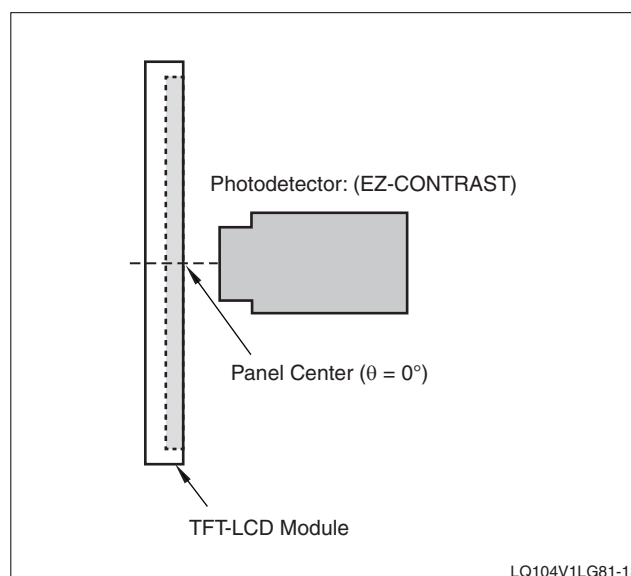

Figure 5. Viewing Angle Measurement Method
- Viewing Angle is described as clock positions: θ12 = 12 o'clock, θ11 = 6 o'clock, θ21 = 3 o'clock, θ22 = 9 o'clock. See Figure 5 for measurement methods.